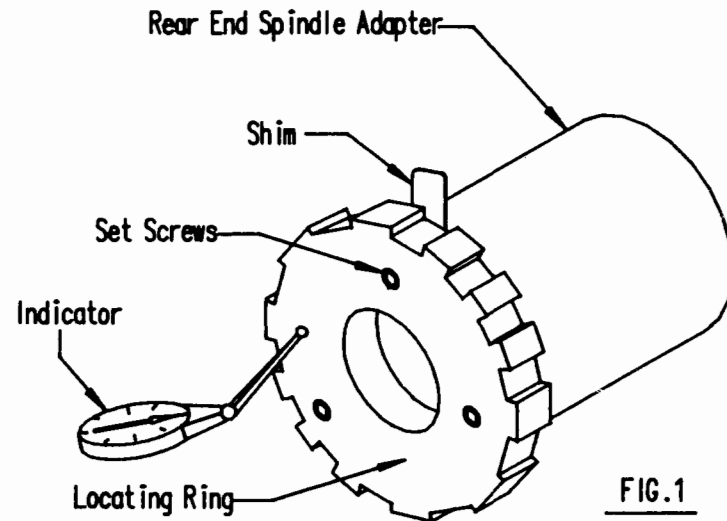

FIG. 1
- i) Set the indicator against the face of the locating ring (fig.1). Rotate the spindle by hand to check for runout. If indicator reads less than .001 T.I.R. proceed to step iii. Otherwise proceed to step ii.
- ii) Loosen screws holding locating ring to adapter and install shims behind locating ring where necessary, (fig.1). Tighten screws and indicate again. Repeat until less than .001 T.I.R. is obtained.